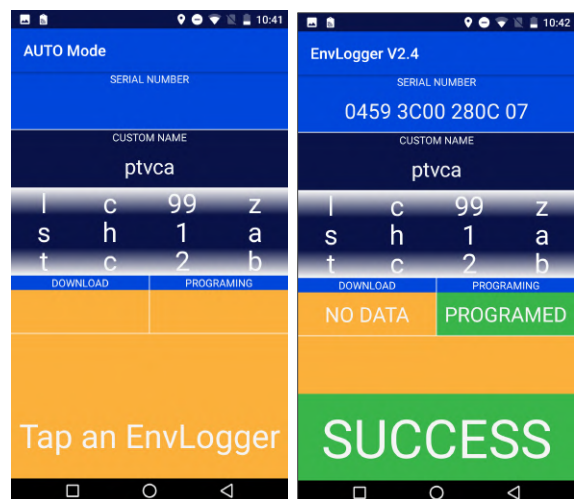

Figure 9. Automatic mode: “PRE DEPLOYMENT” screens.
1. The "PRE-DEPLOYMENT" mode allows the user to automatically set-up loggers before their first deployment, and includes a tool to assist in the process of naming them. It opens a screen where a fixed prefix can be defined in the field “CUSTOM NAME” (e.g., “ptvca” in Fig. 9).
Tap "Servicing" and the app will then show a different screen while it starts searching for EnvLoggers (Fig 11 left). The user only needs to tap the loggers one after the other. Once the smartphone is brought into contact with an EnvLogger, the app will automatically identify it, showing its serial number and name, and a progress bar will appear as it automatically proceeds to download the data (Fig 9 right).